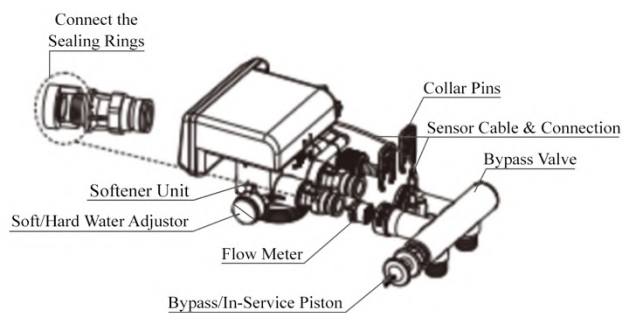

Figure 5
- Figure 5: The valve has a 'Bypass' function which enables quick & convenient Testing. 'Bypass' modes connect the 'Valve' with the 'Bypass Valve', thereby creating a sealed bypass channel, as illustrated in Image 15 below.